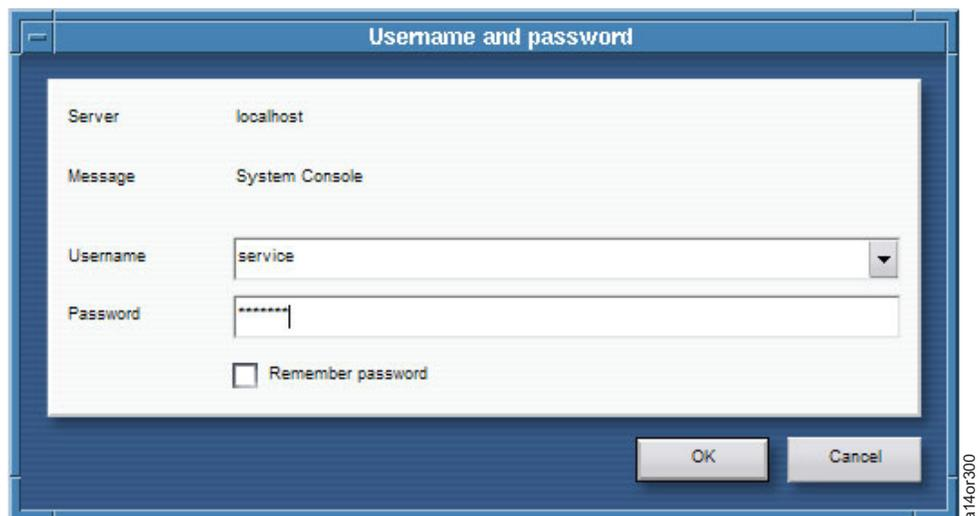

Figure 59. Login Username and Password Screen
2. From the Main Menu, select **System Console Actions** > **Console Configuration Utility**. You see the Username and password screen shown in Figure 59.
- From the Main Menu, select **System Console Actions** → **Console Configuration Utility**. You will see the Username and password screen as shown in Figure 59 on page 48
2. From the Main Menu, select **System Console Actions > Console Configuration Utility**. You will see the Username and password screen as shown in Figure 59 on page 48.